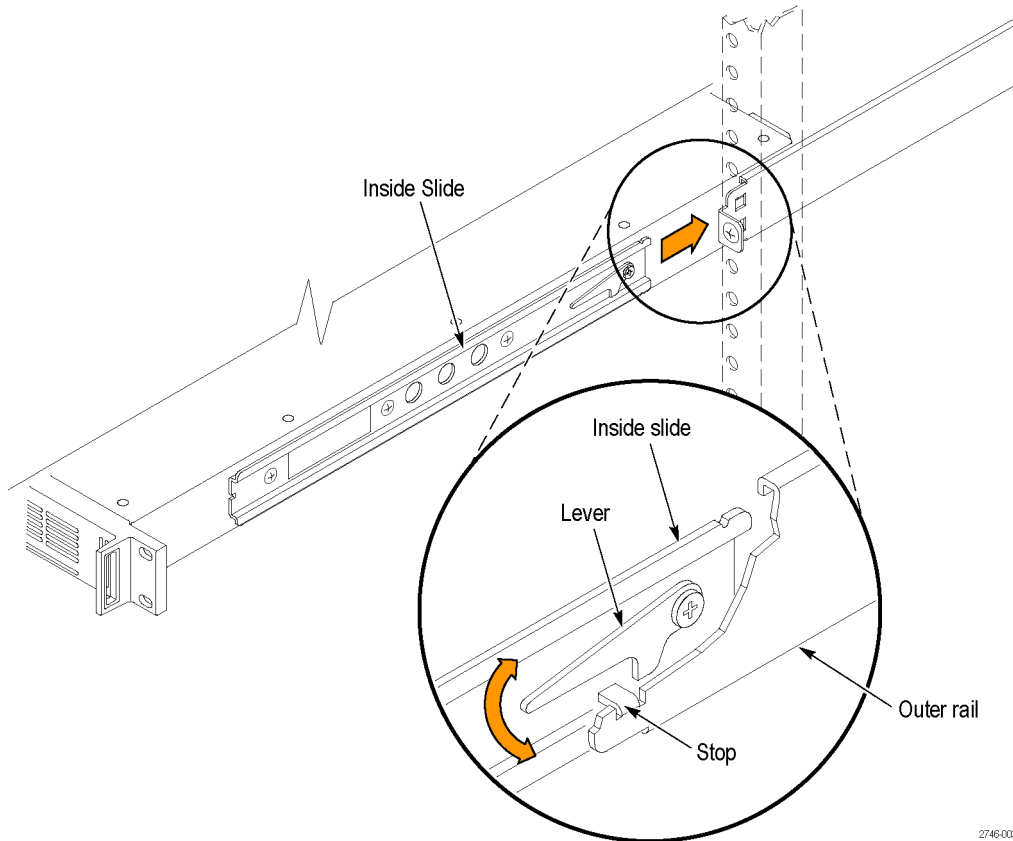

Figure 6: Installing or removing the instrument into or from the rack
1. Insert the instrument left and right slides into the ends of the rack rails while tilting the long handle part of each lever upward. (See Figure 6.)
3. Tilt both lever handles upward simultaneously to allow them to clear the stops. (See Figure 6.)